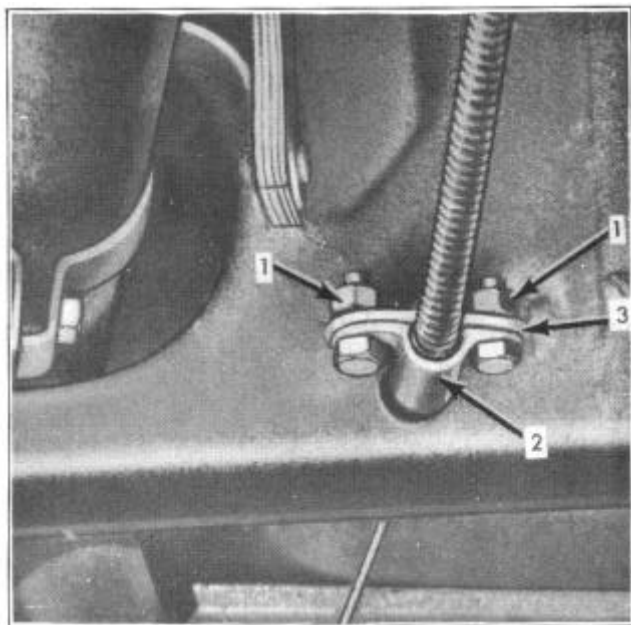

FIGURE 6
8. Loosen nuts (1) that hold brake cable housing clamp (2) to bracket (3) at #6 body cross member as shown in Figure 6. Loosen cable housing by twisting slightly and pulling toward the rear.